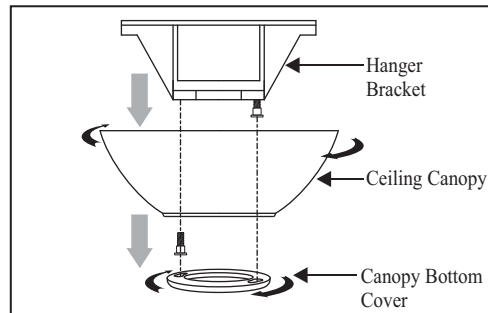

Figure 9
2. Remove the canopy cover from the canopy by turning the cover counter clockwise. (Figure 9)
3. Remove the hanger bracket from the canopy by removing the non-slotted screws from the bottom of the hanger bracket and loosening the other one a half turn from the screw head. Next, turn the canopy counter clockwise to removing the hanger bracket from the canopy. (Figure 9)